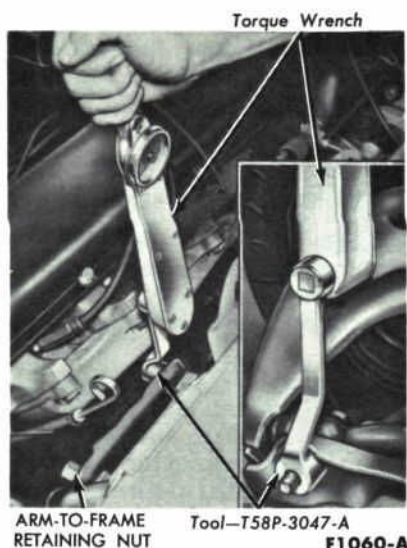

FIG. 85—Inner Shaft Retaining Nut Installation
3. Remove the nut from the upper stud and lift the stud out of the spindle. Support the spindle to prevent damage to the brake hose. Remove the nuts from the retaining bolts on the upper arm inner shaft, using the tool shown in Fig. 85.
2. Using the tool shown in Fig. 85, torque the nuts to specifications. The wrench and tool must stay in line (as shown) during the tightening operation. Position the upper ball joint stud in the top of the wheel spindle, and install the stud nut. Torque the nut to specifications. If necessary, turn the nut further to align the cotter pin hole and slots. Install a new cotter pin.
1. Raise the car to provide working space, and remove the wheel and tire as a unit. After noting the number and location of the adjusting shims, use the tool shown in Fig. 85 to remove the inner shaft retaining nuts, bolts, washers, and shims.
4. Swing the arm back to its normal position, and partially install the inner shaft retaining bolts, shims, washers, and nuts. Install the same shim thicknesses that were removed from both bolts during disassembly. Using the tool shown in Fig. 85, torque the nuts to specifications. To attain the specified torque with the special tool, turn the nut until 50 ft-lbs is shown on the torque wrench.